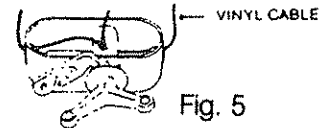

Fig. 5
4. For covers with a winch insert one cable end through the hole at one end of the winch and into the center spindle. Turn the spindle a few times to secure the cable. Insert the other cable end through the other hole in the winch and pull the cable through the spindle as far as it will go. Turn the winch handle to tighten the cable. Make sure cable lies on the outside of the cover all around the pool except where it goes through the pairs of grommets. The cable must fit tightly against the wall of the pool to prevent wind from getting underneath the cover. To loosen or remove cable press lever on top of winch and turn handle in the opposite direction. See figure 5.